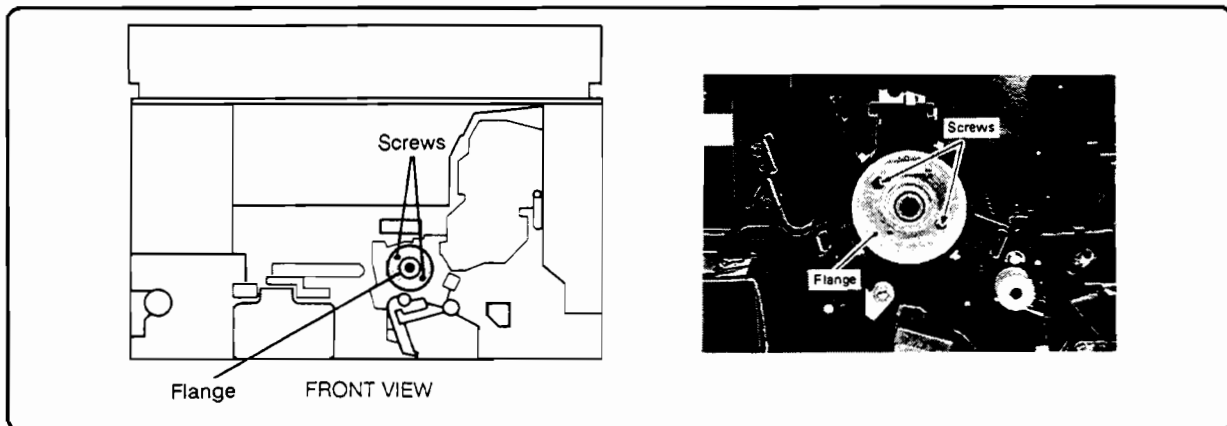

Figure 6-51. Drum Flange
8. Remove the two screws and detach the drum end flange (Figure 6-51).